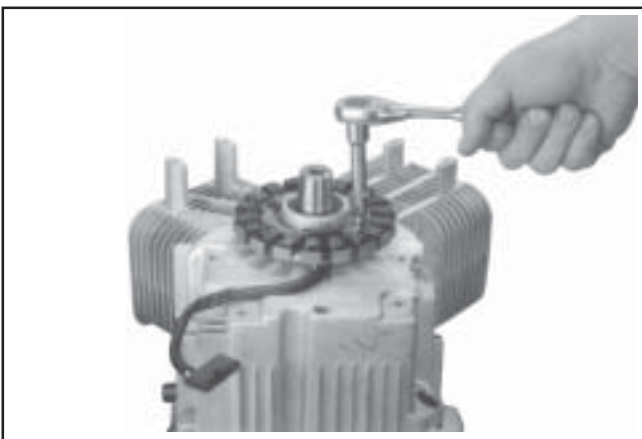

Figure 9-54. Removing Stator.
2. Remove the two hex flange screws and the stator. See Figure 9-54. Note the position/routing of the stator lead.